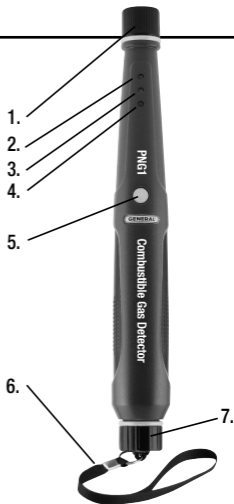

Fig. 1
Fig. 1 shows the controls, indicators and physical features of the PNG1. Familiarize yourself with their locations before moving on to the Setup Instructions and Operating Instructions.
1. Open the PNG1's battery compartment by unscrewing the black cap at the base of the instrument (Fig. 1, Callout 7).
To activate the PNG1, press and hold the  button (Fig. 1, Callout 5) for at least 3 seconds. The instrument will immediately sound a brief, rapid sequence of five tones and begin a 15-second warmup period. During this period, the three front-panel LEDs will flash rapidly and repeatedly in order from bottom to top.